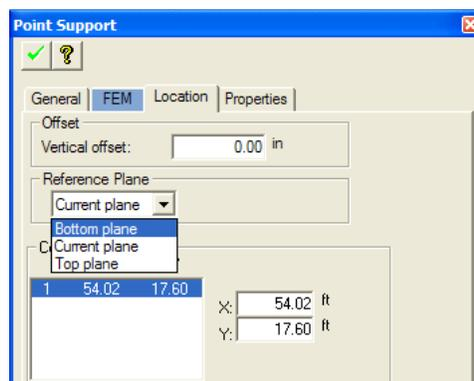

Figure 7.6-2 - Point Support Dialog Window
- If the point support was not inserted in the location you intended, edit the location by going through the view/edit steps described above. For example, if you want the point support to be at the bottom of a column, open the property box of the point support. From the *General* tab, select *Bottom Plane* for the location (**Fig. 7.6-2**).